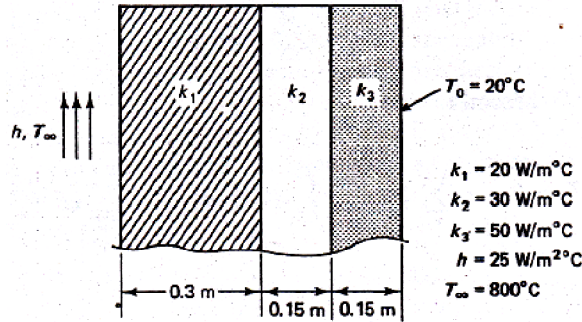

Figure 4
- Q.3 (a) A composite wall is consisting of three materials as shown in Figure 4. Outer temperature T_0 is 20°C . Convection heat transfer takes place on inner surface of wall with $T_\infty = 800^\circ\text{C}$ and $h = 25 \text{ W/m}^2\text{C}$. Determine temperature distribution in wall. 07